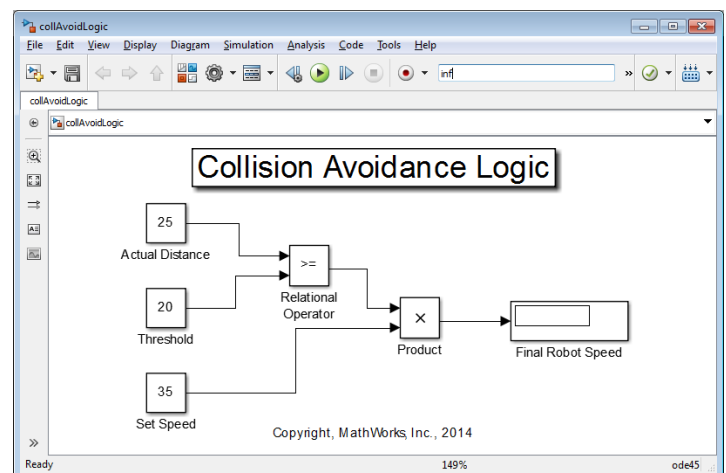

Figure 15: Collision avoidance logic
- Save the modified model as collAvoidDeploy.slx. It should look like the model in the figure 15 above.